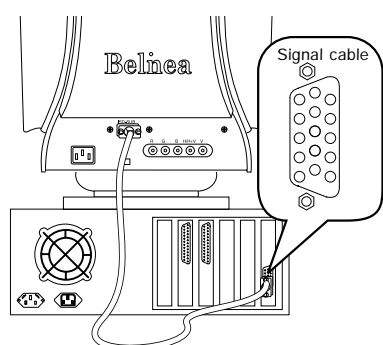

Figure 2. Connecting the monitor to the PC
2. Connect the 15-pin signal cable to the monitor and the PC (see figure 2).